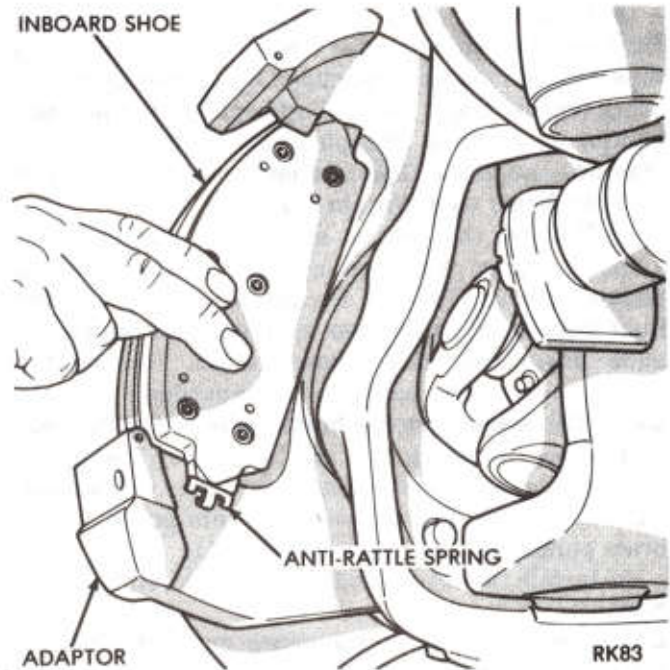

Fig. 8—Removing or Installing Inboard Shoe
(6) Remove the inner shoe and lining from the adapter, and remove the shoe anti-rattle spring (Fig. 8).
(1) Position the anti-rattle spring in the lower shoe abutment of the adapter (Fig. 8). Be sure that the loop portion of the spring is positioned away from the rotor. Install the lower end of the inboard shoe into the groove provided in the adapter (against the spring clip). Slide the upper end of the shoe into position. Be sure the clip remains in position.